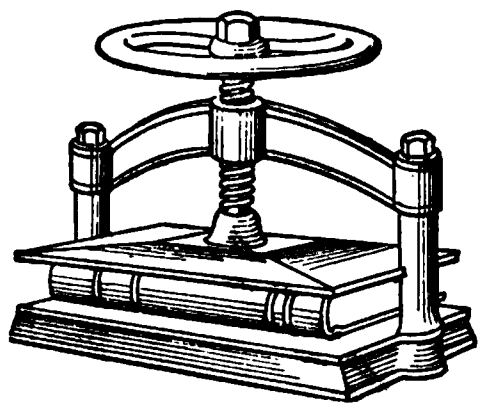

FIG. 38. — Letterpress.
7. In a letterpress (Fig. 38) the threads are 0.25 inches apart and the hand wheel is 14 inches in diameter. If a 15-pound pull is applied to